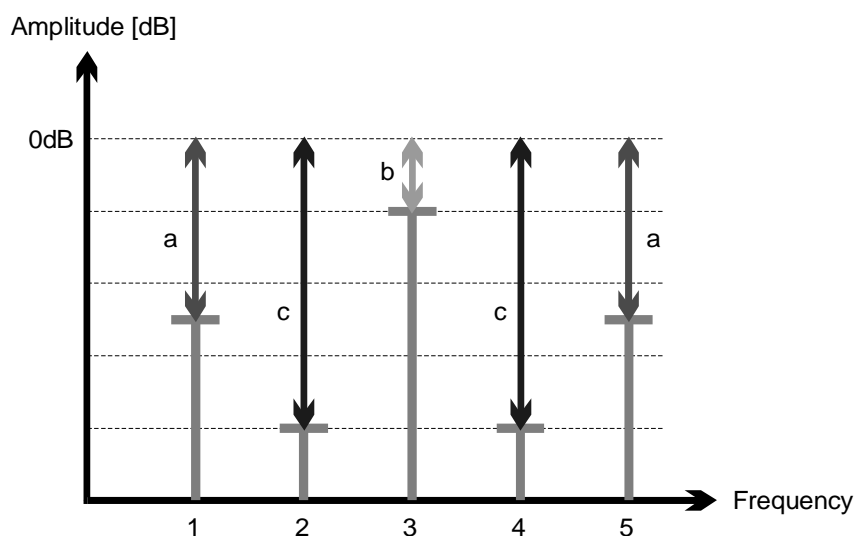

Fig. 24 Trigger Definition
Fig. 24 visualizes the characteristic of a *RT-1M* triggersignal. The bottom bars (T) at the frequencies 1, 3 and 5 represent the set signal bins and their amplitudes, defined against the ground level of the generator, whereby signal bin 1 and 5 have identical amplitudes. The frequencies 2 & 4 represent the empty bins.
The solution is to assume the currently set input range of the analyzing RT-1M unit as reference level. This level equals the max. detectable amplitude of all incoming signals (all higher levels would be clipped), and is represented by the 0dB line on top of **Fig. 24**.